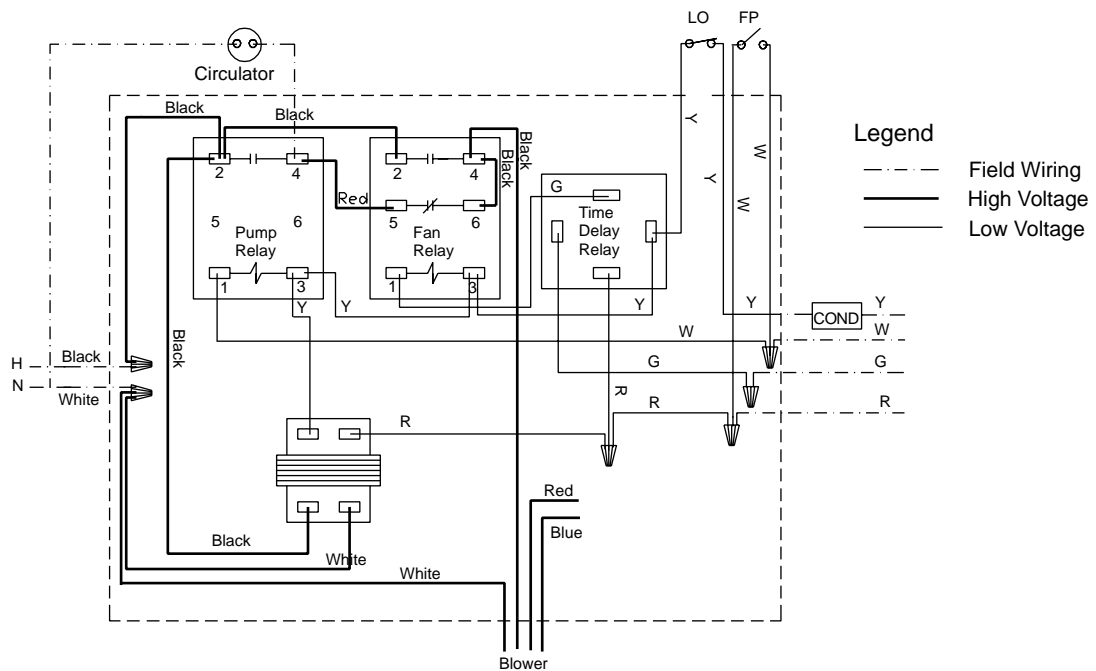

Fig. 1: Factory Wiring Diagram
5. Disengage the line and wiring from Relay. See Fig. 1.